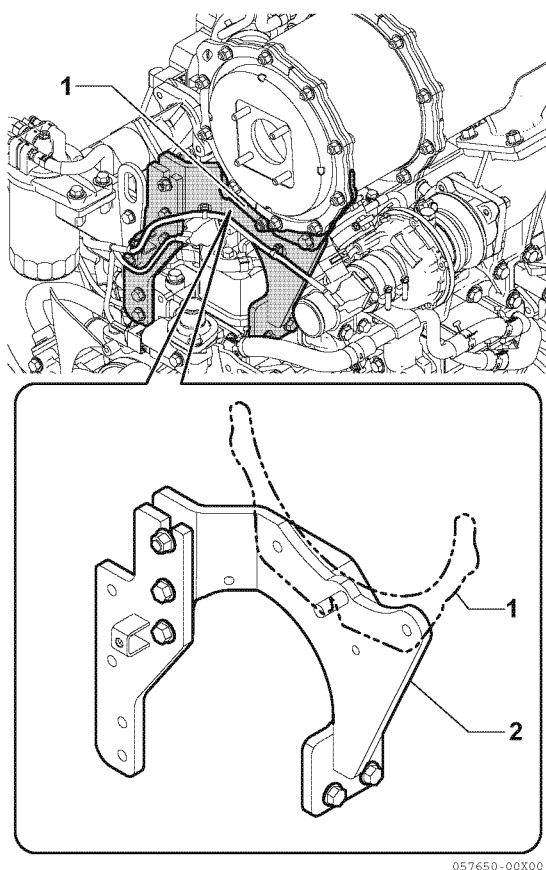

Figure 13-21
- After reattachment of the SF on the DOC, reattach the silencer (or outlet flange) to the SF using the stiffener. At this time, align the notches on the bottom of the stiffener (**Figure 13-21, (1)**) underneath the silencer with the stud bolt in the center of the DPF stay (**Figure 13-21, (2)**), and reattach the stiffener (M8 bolts and flange nuts, 8 or 10 of each). Make note of the position and angle of the stiffeners (4 pcs.).
- Next, affix the stiffener (**Figure 13-21, (1)**) and DPF stay (**Figure 13-21, (2)**). (M10 bolts (2 pcs.), M10 flange nut (1 pc.))